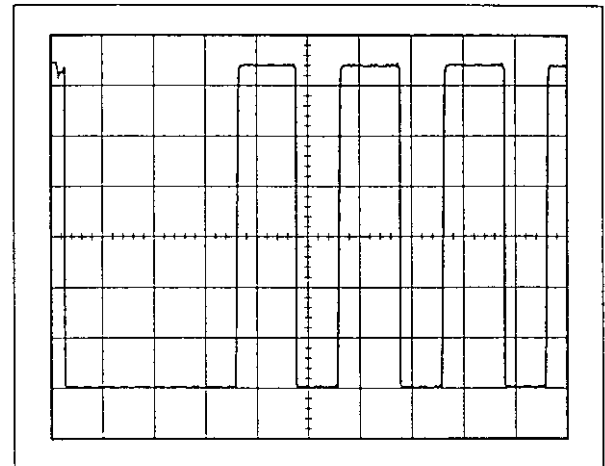

Figure 10. Start time.
2. Set the signal generator to FM, 2,5 kHz deviation. Check that the CODE signal is as in figure 10, i.e. a square wave with 50% duty cycle after < 3 ms.